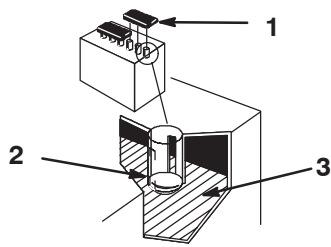

Figure 50
- Open covers to see into the cells. The electrolyte must be up to the lower part of the tube (Fig. 50).
Important Do not allow the electrolyte to get below the plates. (Fig. 50).
2. Lift off the filler caps (Fig. 50).
3. Slowly pour distilled water into each battery cell until the level is up to the lower part of the tube (Fig. 50).